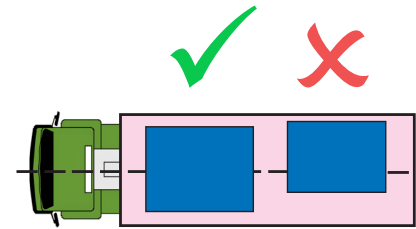

Fig.2.2: Place packs on the centre of the vehicle.
- ✓ Position the packs single file on the centre line of the vehicle. (Fig.2.2)